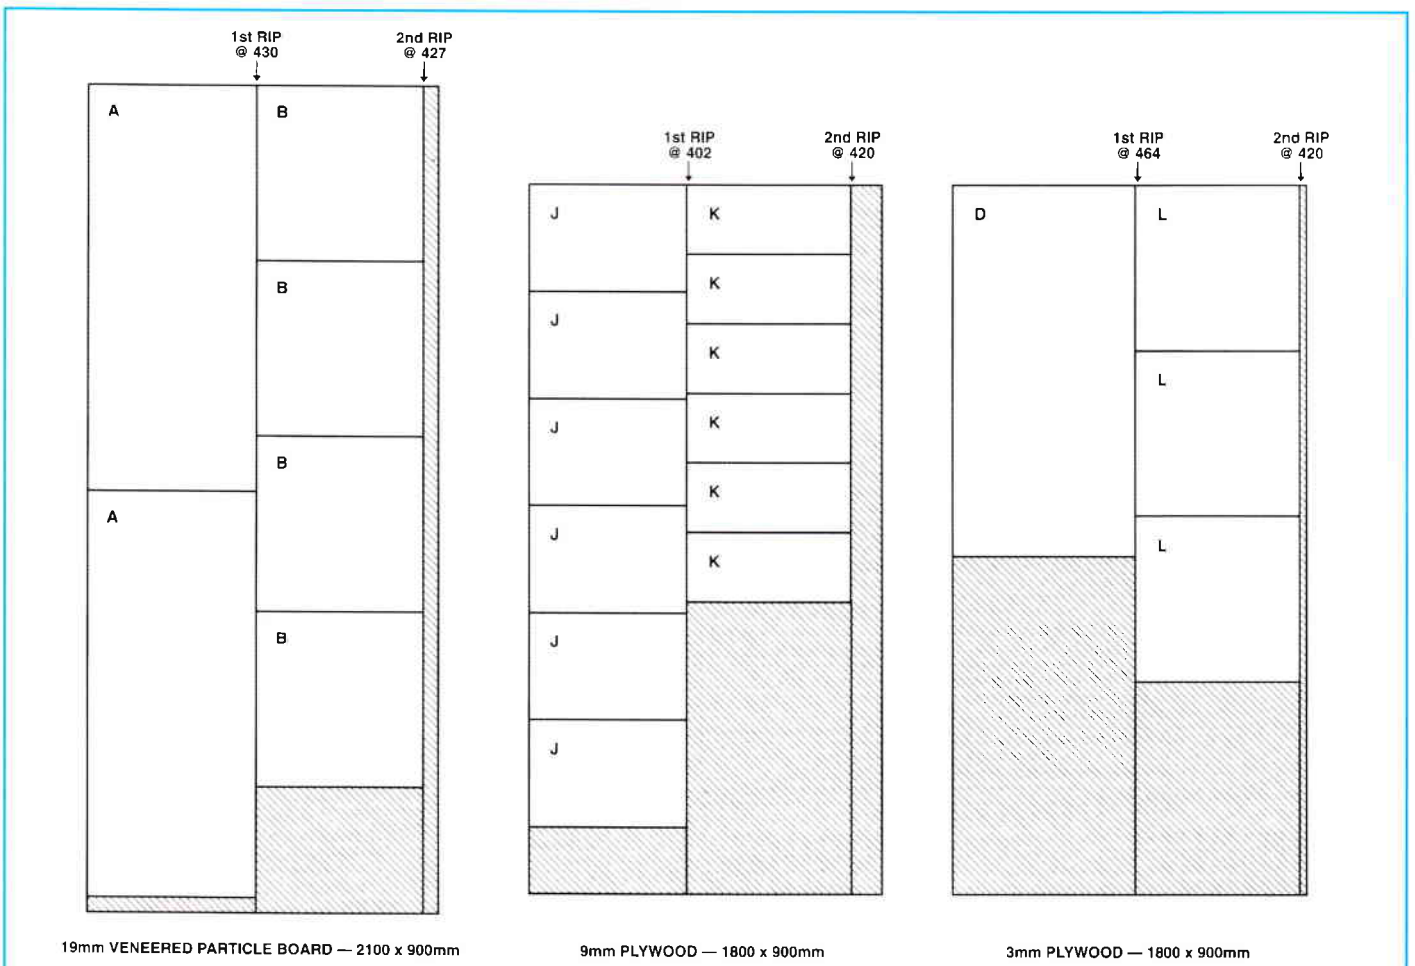

**FIGURE 4**
**2** A 10mm x 3mm recess for the plywood back must now be cut in the rear edges of the cabinet sides (A) as per Figure 4. This can be done with a lowered sawblade in the wide rip mode, or using your router, fitted with a straight cut or rabbeting bit, in the Router and Jigsaw Table.
If only one of the veneered faces is of good quality, remember that the rebates are mirror imaged. (Figure 4)